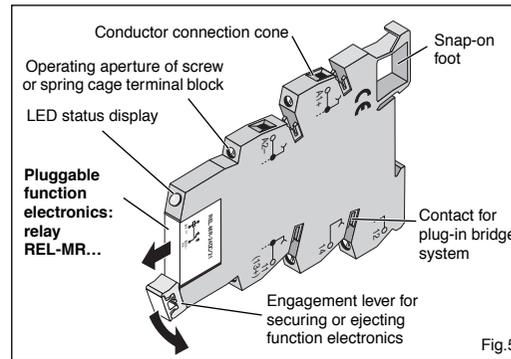

Fig.5
3.1. Relay with PDT Contact (Fig.5/6)